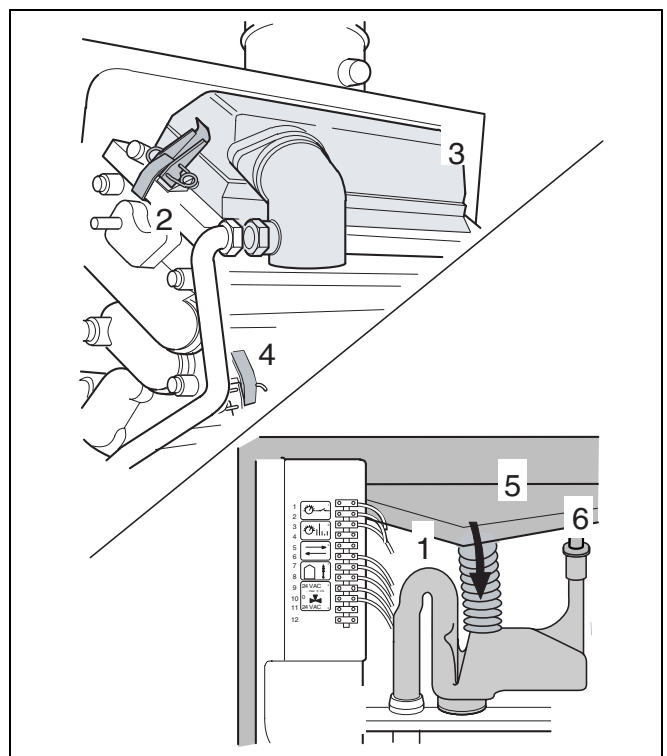

fig. 47 Removing the cover and condensate plate
- Loosen both retaining clamps (fig. 47, item 2) of the burner cover and remove the burner cover and burner (fig. 47, item 3).
- Pull the syphon away from the condensate plate (fig. 47, item 1).
- Loosen the connection to the condensate water bypass (fig. 47, item 6).
- Loosen the retaining clamps (fig. 47, item 4) of the condensate plate and remove the condensate plate (fig. 47, item 5).